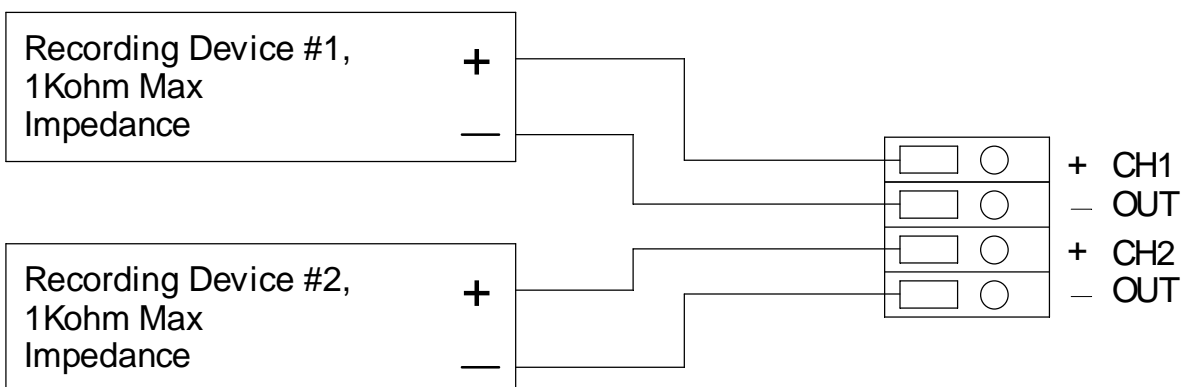

Figure 11. Recorder Output Wiring
5. Connect the wires from the recording device to the recorder output terminals as shown in Figure 11.